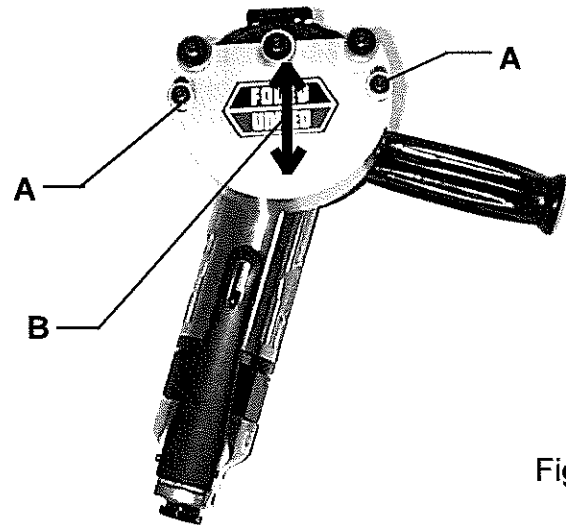

Fig. 1
To dress the bed knife you must match the grinding disc surface on the grinder to the face of the bed knife. To accomplish this loosen the two socket head screws on the guide cover. (See Fig 1 Item A.) Adjust the guide cover back and forth (See Fig1 Item B) until the grinding disc is matching the face of the bed knife. When this has been achieved use the 1/8 allen key to retighten the two socket head screws.
1. Loosen the two guide cover socket head screws (Fig. 1 Item A) and remove the guide cover.